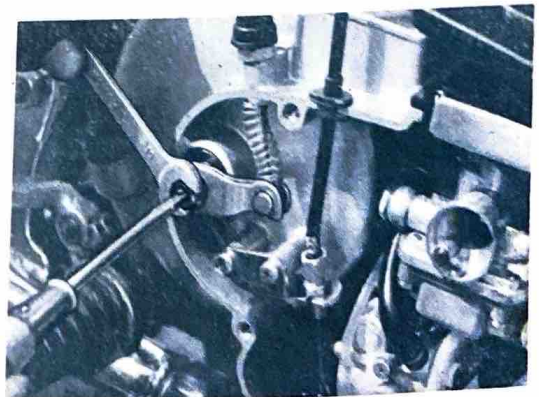

Fig. 3-9-13
- a. Remove the carburetor cover and loosen the push screw lock nut. Tighten the push screw to a lightly seated position, and back it off $\frac{1}{4}$ turn. Then fully tighten the lock nut. (Fig. 3-9-13)